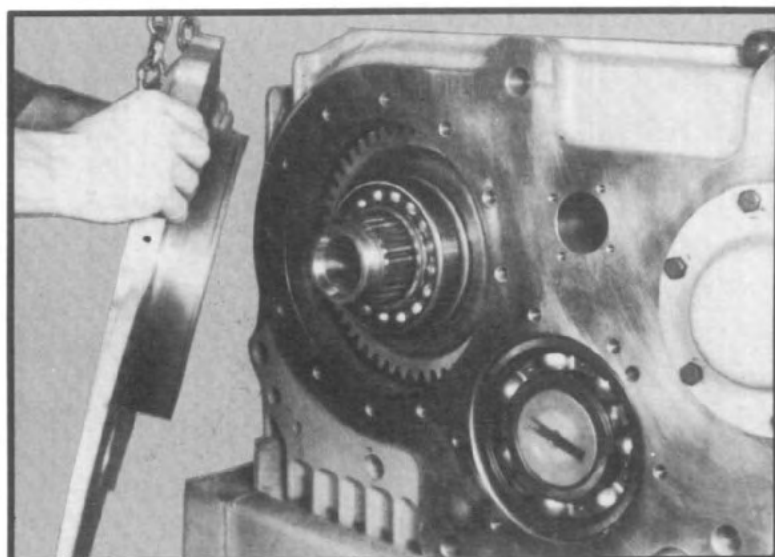
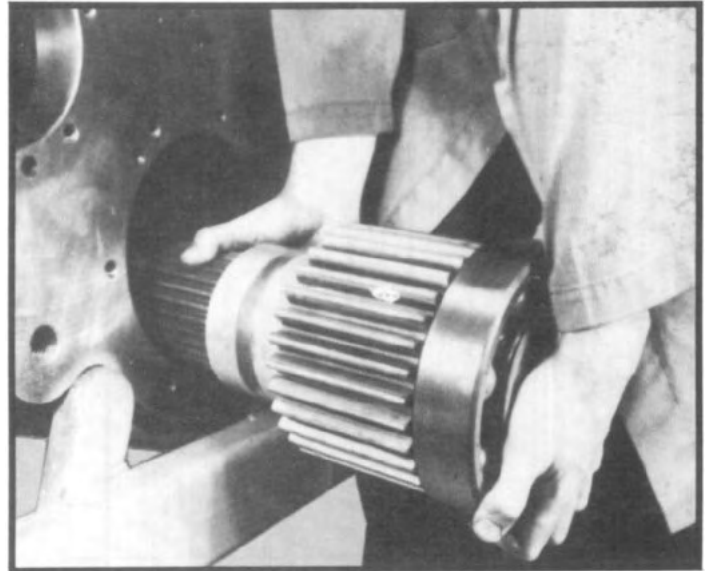

Fig. 70
Fig. 79
- 3.17 Remove fifteen capscrews from rear face plate and remove face plate from housing. It is recommended that two bolts or eyebolts be attached to the face plate and a chain hoist be attached to the bolts or eye bolts with a chain. (See fig. 79.) The face plate can then be worked out of transfer case housing, supported by the chain hoist. (See fig. 70.) Note: As the face plate is being worked out of the transfer case tap the rear of the lower shaft with a soft hammer to remove rear bearing from the face plate.
5. Withdraw intermediate shaft and intermediate shaft underdrive gear as a unit through front bearing bore. Use care to prevent damage to direct drive gear as shaft pulls free. (See fig. 79.)